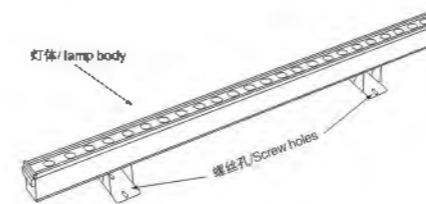

图 1/Picture 1
- 1、用螺丝将固定件固定到墙上，如图1所示。
1. Will be fixed by screws is fixed to the wall, as shown in figure 1.